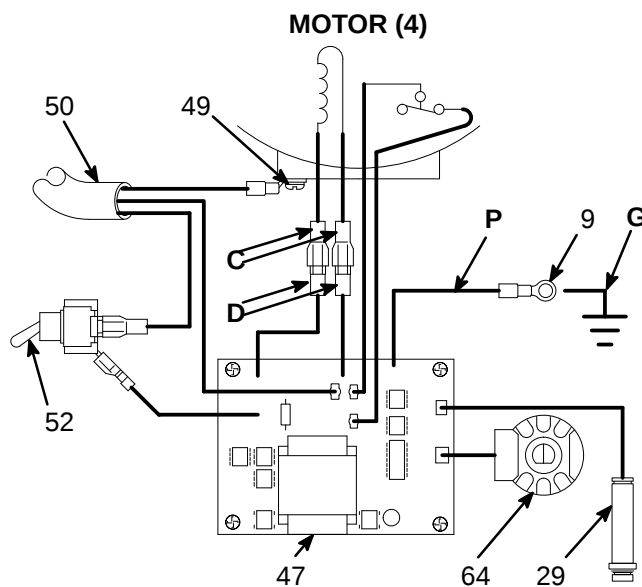

Fig. 13 03000
Remove the screws (56,75). Lower the control board (47). Disconnect the two leads (C) from the motor to the board. See Fig.13.
Connect the two black motor leads (C) together with a test lead. Turn the motor fan by hand at about two revolutions per second. See Fig. 13.